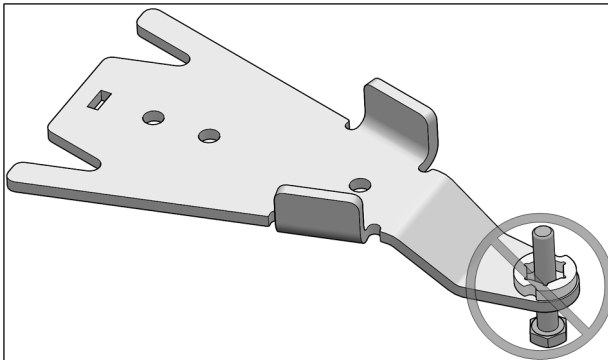

Fig. 20
**CAUTION:** Make sure that the bolt is inserted in the right direction. See Fig. 20